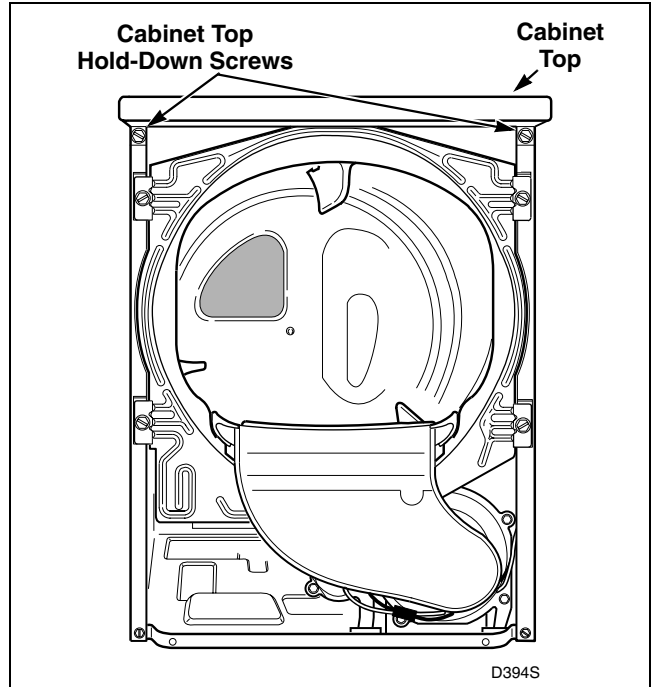

Figure 29
- f. Remove two screws holding cabinet top to front flange of cabinet. Refer to *Figure 29*.